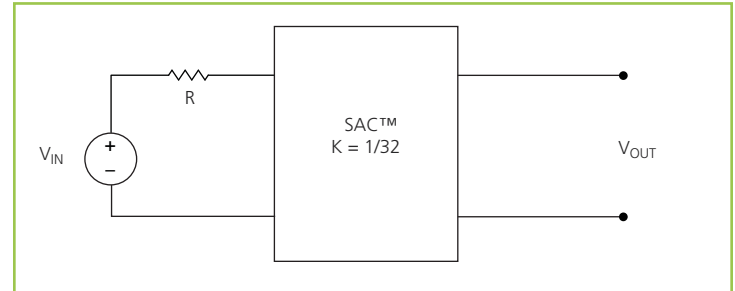

Figure 18 —  $K = 1/32$  Sine Amplitude Converter™ with series input resistor
$R_{OUT} = 0 \Omega$  and  $I_Q = 0 A$ , Eq. (3) now becomes Eq. (1) and is essentially load independent. A resistor  $R$  is now placed in series with  $V_{IN}$  as shown in Figure 18.
Assuming that  $R = 1\ \Omega$ , the effective  $R$  as seen from the secondary side is  $0.98\ m\Omega$ , with  $K = 1/32$  as shown in Figure 18.